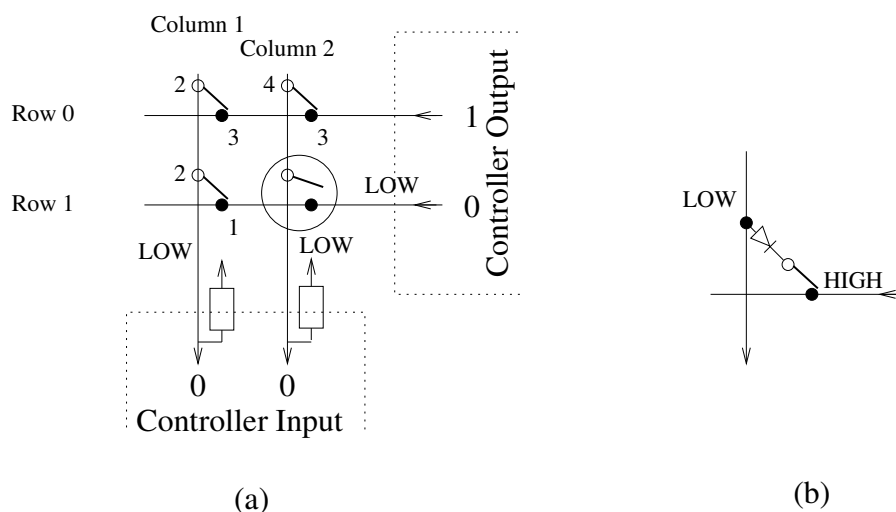

Figure 5.2: Recognition of a phantom button (a) and suppressing the effect with a diode (b).
Another issue to bear in mind when using a multiplexed keypad is the following: Assume that you press the buttons  $\langle 0, 1 \rangle$ ,  $\langle 0, 2 \rangle$  and  $\langle 1, 1 \rangle$  on the keypad. Then you select row 1 by setting it to LOW. By rights, you should now read LOW on column 1 and HIGH on all other columns. But if you look at Figure 5.2 (a) and consider the voltage levels caused by the three pressed buttons, you will find that column 2 will be pulled to LOW as well. The problem is that since point (1) is LOW, points (2) will be LOW. Since button  $\langle 0, 1 \rangle$  is pressed, this causes points (3) to become LOW, and since button  $\langle 0, 2 \rangle$  is pressed, point (4), which is on column 2, will follow suit and column 2 will read LOW. Hence, you will recognize a phantom button. You will also produce a short between rows 0 and 1 in the process, so the keypad rows and columns must be current protected.
This effect can be removed by using diodes in the connections made by the buttons (in the direction from the columns to the rows), as depicted in Figure 5.2 (b). The diodes will only let current pass in one direction and will act as a break in the other direction. In consequence, they will allow a column to change from HIGH to LOW if a button is pressed in the currently read row, but they will not allow a row that is HIGH to be pulled to LOW by a LOW column. In a matrix keypad which uses such diodes, you will not recognize any phantom buttons. However, cheap keypads come without diodes, and in their case there is no way you can avoid recognizing phantom buttons.